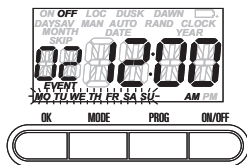

Fig. 14
14. Press **PROG** to accept the event setting. The Days Of Week (DOW) display will begin to flash (Fig. 14).